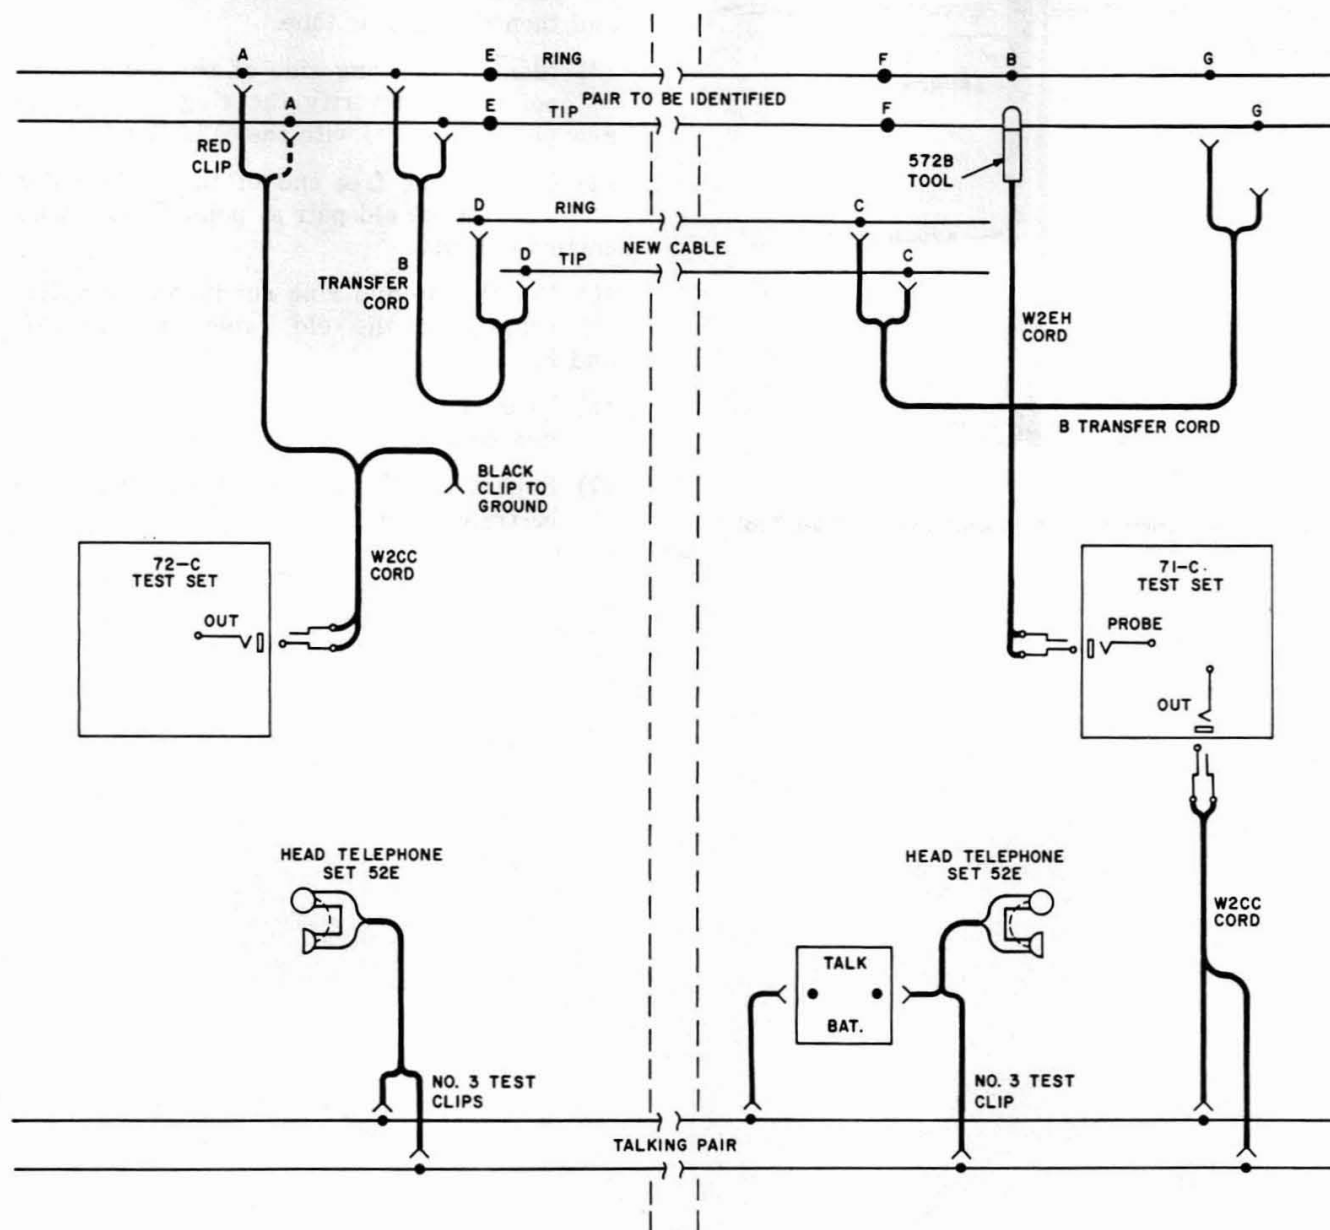

Fig. 3 — Identification of Voice-Frequency Pairs Using 71- and 72-Type Test Sets
- (1) Make connections as shown in Fig. 3.
- (2) Plug in the W2CC Cord to turn on the transmitter at the sending end.
- (3) Connect the red clip to the ring side of the pair at point A.
- (4) Identify the ring side of the old pair at point B and verify the ring side of the new pair at point C with the 572B Tool (probe).
- (5) Connect the red clip of the W2CC Cord to the tip side of the pair at point A.
- (6) Identify the tip side of the old pair at point B and verify the tip side of the new pair at point C with the 572B Tool (probe).
- (7) Connect the free end of the B Transfer Cord to the tip and ring conductors at point G observing correct polarity.
- (8) Cut the tip and ring conductors simultaneously in the old cable at points E and F.
- (9) Trim and splice tip and ring conductors to new conductors one at a time.
- (10) Repeat (3) through (8) for each working conductor to be transferred.